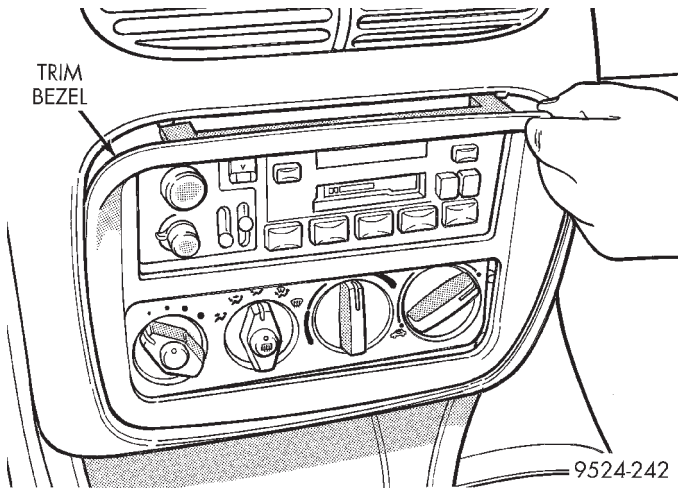

Fig. 66 Trim Bezel
- (1) Place the ignition key in the OFF position before removing control module.
- (2) Remove trim bezel (Fig. 66).
- (7) Remove trim bezel (Fig. 66).